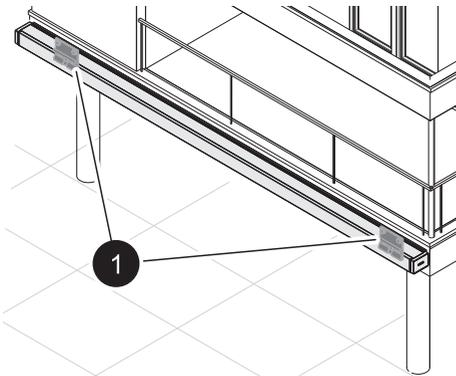

Fig. 28: Check screw connections
1. Check the mounting brackets (fig. 28/1). The brackets must be flat and firmly fastened to the base surface.